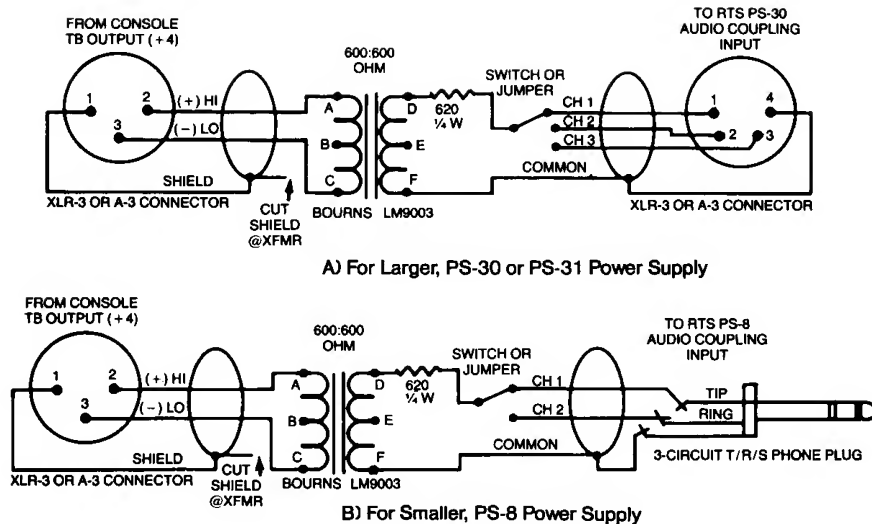

FIGURE 7-6. Interface of PM3000 "TB OUT" to RTS Intercom "AUDIO COUPLING" Input.
-7 dBu nominal intercom line level. Actually, RTS also suggests using a 1K audio taper pot for further signal level adjustments, but since the PM3000 has a TB LEVEL control, we have omitted the adjustment in the circuit shown in Figure 7-6.
The larger RTS power supplies (Model PS-30 or PS-31) are equipped with a 4-pin XLR connector for the audio coupling input. This connector is wired so that pin 1 carries the audio signal for channel 1, pin 2 for channel 2, pin 3 for channel 3, and pin 4 is the audio common. The interconnect is shown in Figure 7-6A. The smaller RTS power supply (Model PS-8) is equipped with a 1/4" Tip/Ring/Sleeve phone jack for the audio coupling input. This jack is wired with the tip for channel 1, the ring for channel 2, and the sleeve for audio common. The interconnect is shown in Figure 7-6B. In both instances, you have the choice of using a jumper, a switch, or hard wiring the connection to one or the other intercom audio channel. If the signal level is too "hot" for the intercom system, you can turn down the TB LEVEL in the console, or you can wire the secondary of the transformer so that signal is derived from the center tap (terminal "E" in Figure 7-6) rather than the high side of the transformer (terminal "D").